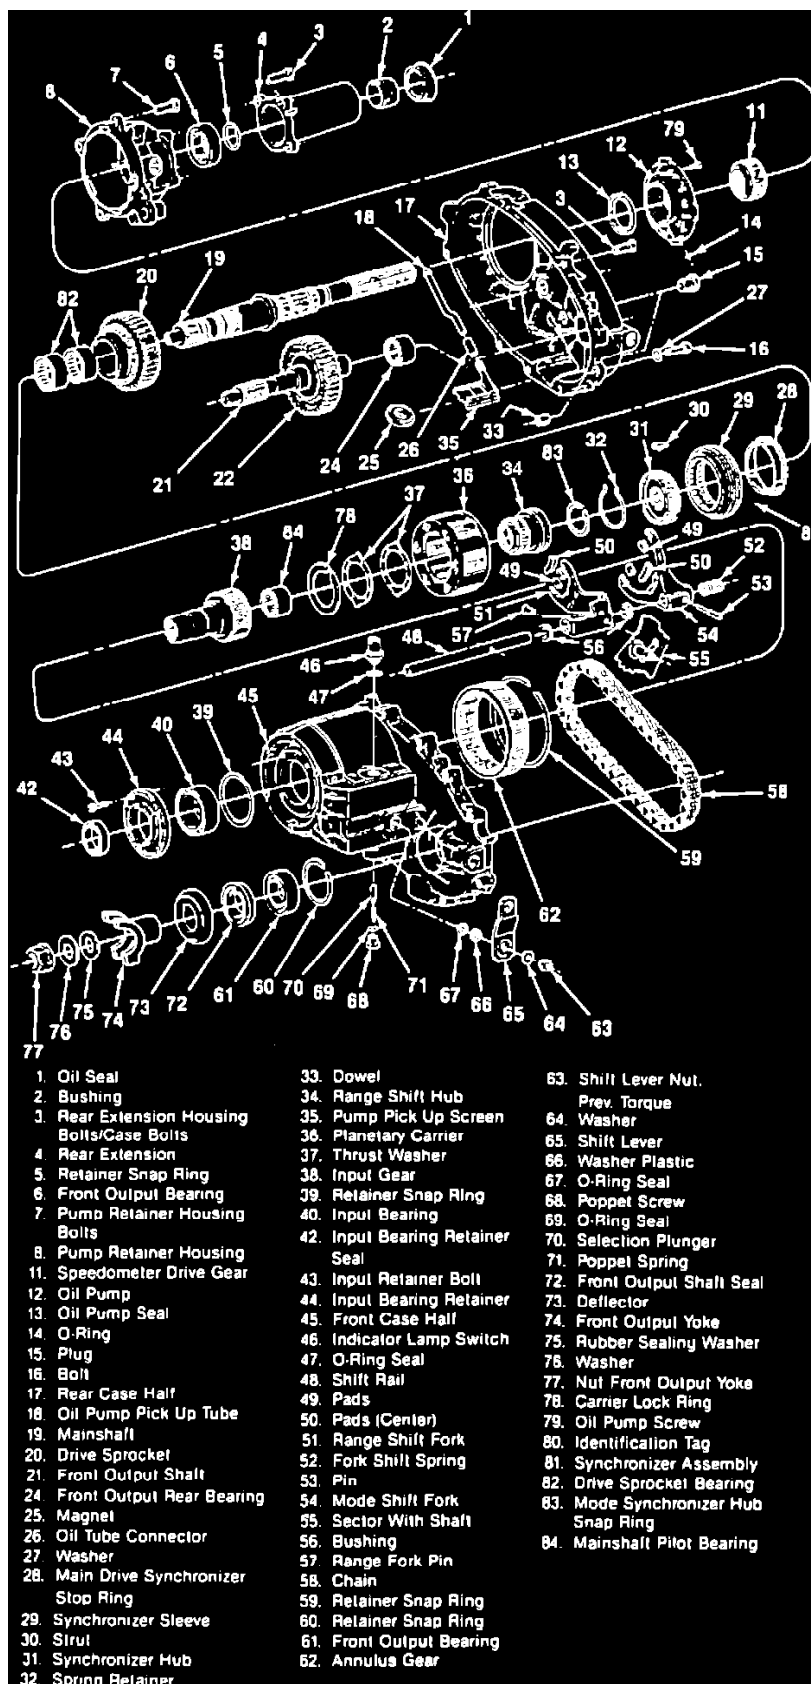

Fig. 19 Transfer Case Exploded View. New Process Models 231, 233 & 241 Transfer Cases
14. Remove range shift fork and range shift hub and sector with shaft from planetary carrier. It is necessary to rotate sector with shaft to provide clearance when removing fork (51), Fig. 19.